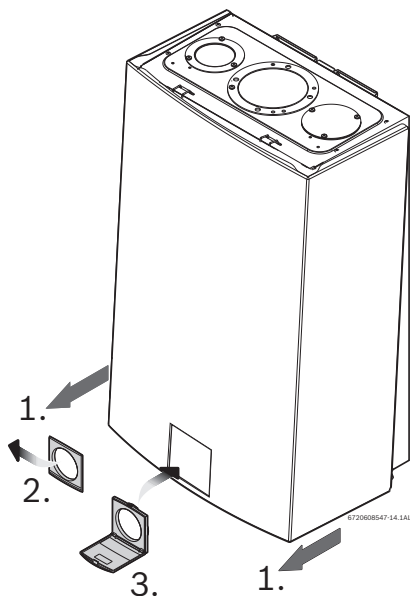

Fig. 3 Replace the control panel shield
- Remove the front cover panel and replace the original control panel shield with shield provided in the kit, see Fig. 3.